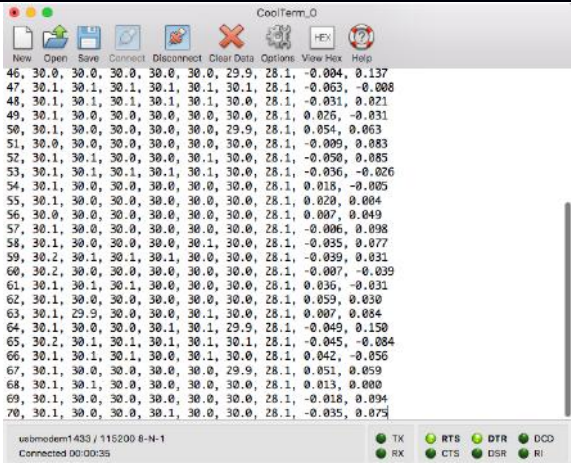

Figure 3
- 2) Click OK and then click Connect. Enter the letters "Oa" (capital o) on the keyboard. The stimulator will return the current temperatures of the five zones and the neutral temperature. The last two values on each line are control parameters for diagnosis in the event of device failure (Figure 3).